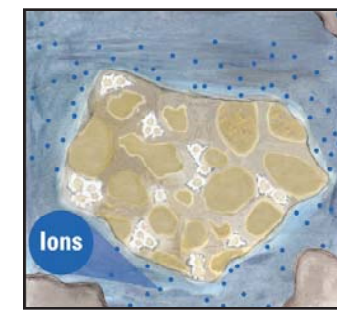

Figure 4. Cement particle dissolving during stage 2
- During this dormant period, the silicates (alite and belite) slowly dissolve, releasing calcium ions in solution (figure 4).